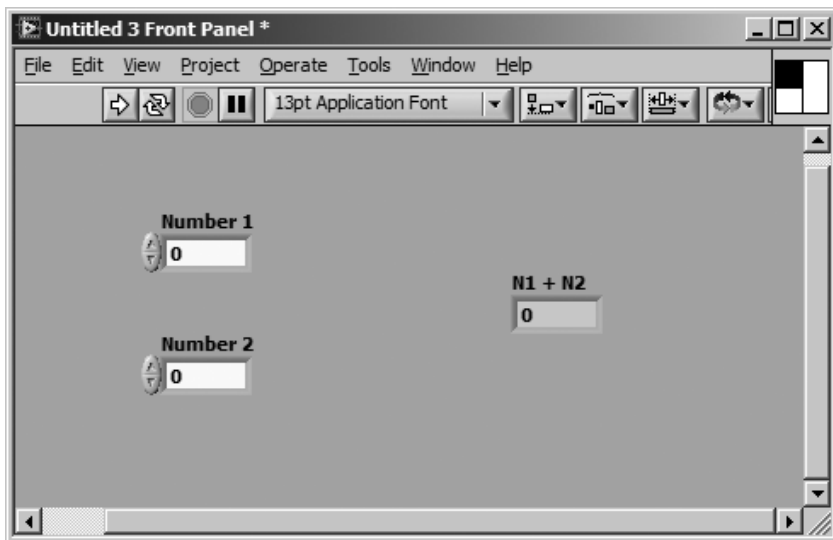

Figure 5.20
1. Click on a terminal in the connector. The cursor automatically changes to the Wiring tool, and the terminal turns black, as shown in Figure 5.20.